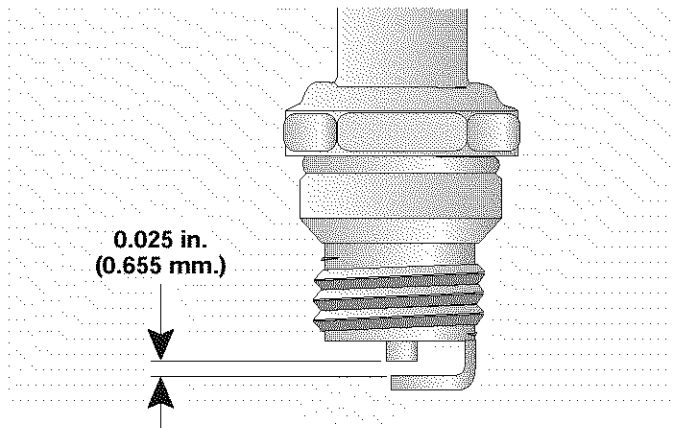

Fig. 42
3. Replace cracked, fouled or dirty spark plug. Set the air gap at 0.025 in. (0.655 mm.) using a feeler gauge (Fig. 42).